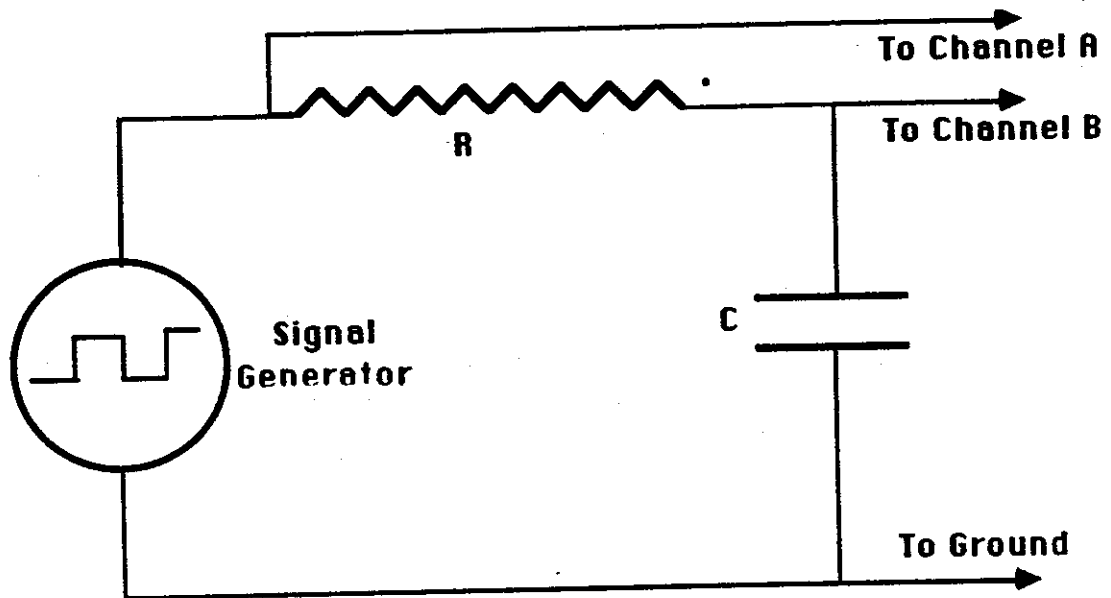
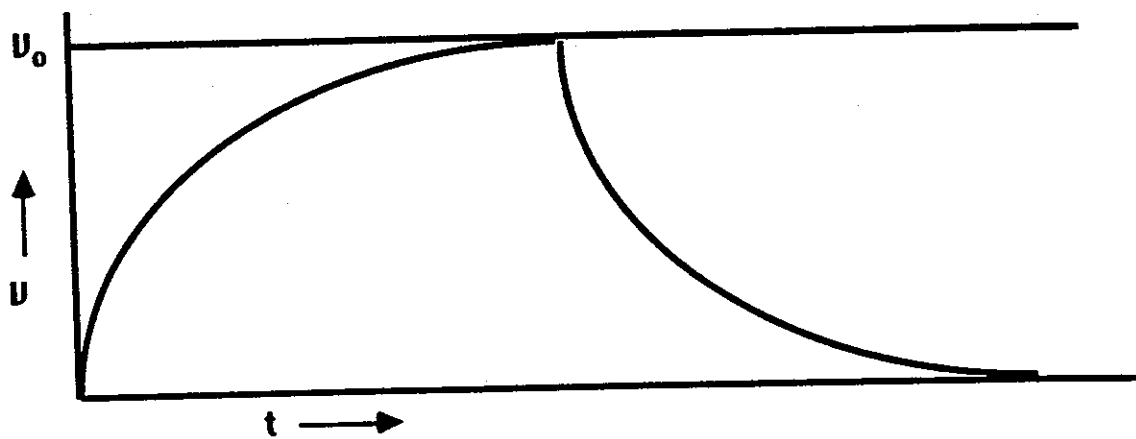

Fig. 8-4
Fig. 8-5
In this experiment, instead of a DC voltage and a mechanical switch, if we apply a square wave signal to the capacitor as shown in Fig. 8-4, the capacitor will be charged when the voltage is V_0 (segment AB of the square wave in Fig. 8-5) and the charge on the capacitor will decay when the voltage of the square wave is zero (segment CD in Fig. 8-5). The oscilloscope traces of the charging and discharging of the capacitor have also been shown in Fig. 8-5.
In this experiment, the frequency of the square wave should be adjusted to obtain the display shown in Fig. 8-5
- (a) Make the circuit as shown in Fig. 8-4.